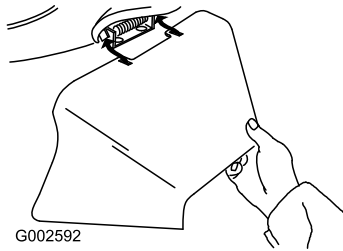

Figure 27
3. Install the side discharge chute and close the door onto the chute (Figure 27).